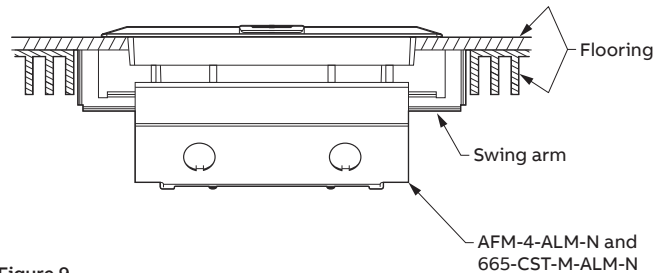

Figure 9
3. Making sure the Swing arms are positioned up against the sides of the Box, lower AFM into the hole. Once it seats and with the main Cover removed, using a Phillips screwdriver, turn the 2 $\frac{1}{4}$ " SS screws threaded through the Swing arms, clockwise until the Swing arm rotates and stops-then continue tightening the screw(s) until the Swing arm engages the underside of the flooring (see Figure 9).